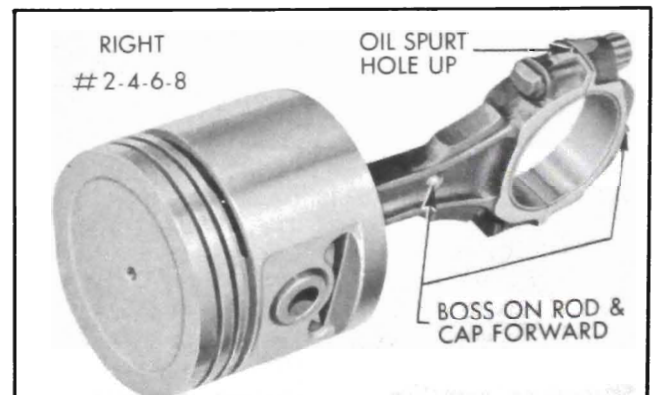

Figure 2-50—Right Bank Piston and Rod Assembly
3. If the piston and rod is to be installed in the right bank, the assembly must be made as shown in Figure 2-50.